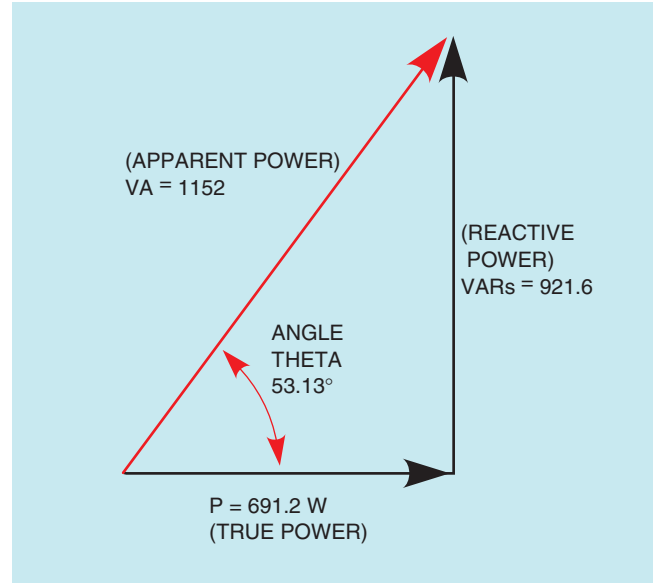

FIGURE 13-25 The angle theta is the relationship of true power to apparent power.
The angular displacement by which the voltage and current are out of phase with each other is called **angle theta** (θ). Since the power factor is the ratio of true power to apparent power, the phase angle of voltage and current is formed between the resistive leg of the right triangle and the hypotenuse (Fig. 13-25). The resistive leg of the triangle is adjacent to the angle, and the total leg is the hypotenuse. The trigonometric function that corresponds to the adjacent side and the hypotenuse is the cosine. Angle theta will be the cosine of watts divided by volt-amps. Watts divided by volt-amps is also the power factor. Therefore, the cosine of angle theta (θ) is the power factor (PF).